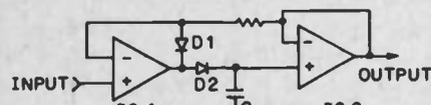

Fig. 7. Some call it "sample and hold."
**Hold that Sample.** A diode can also be used with an op-amp to read true peak voltage. Peak voltages of pulses and other non-sinusoidal waveforms are not accurately measured by conventional circuits. Figure 7 shows the diagram of a simple, positive-peak-reading circuit. A positive input to IC1 will cause its output (at the "top" of C) to go positive by an amount equal to the peak of the input. The capacitor C "stores" this value.